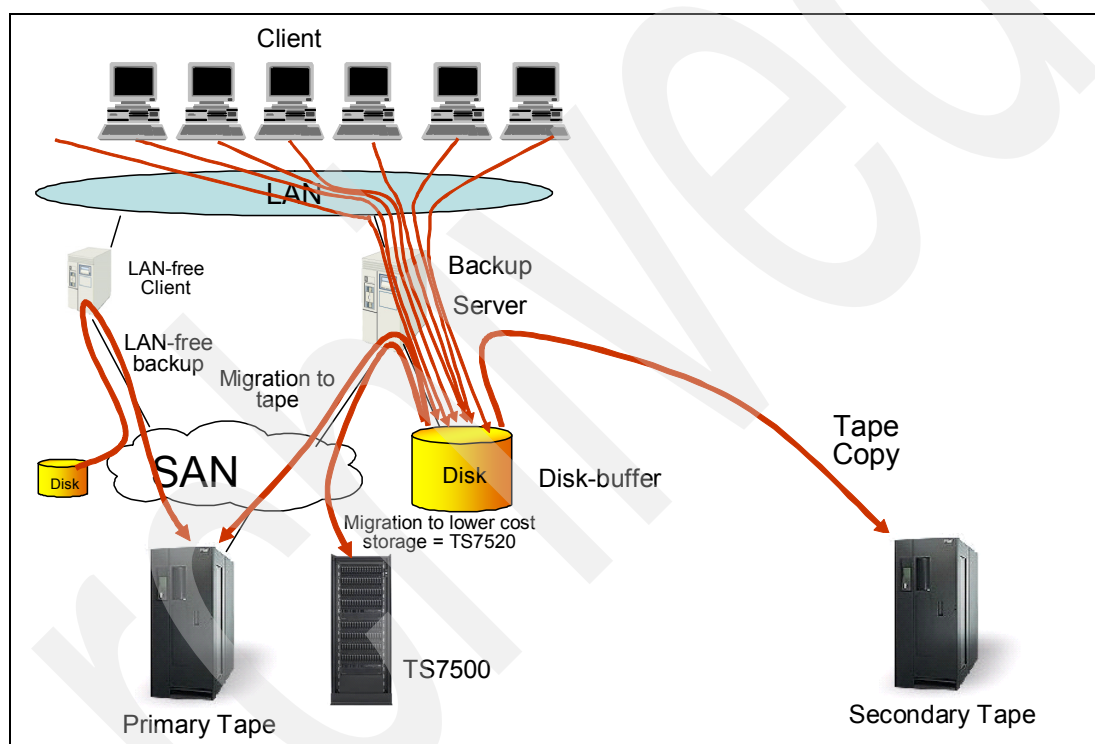

Figure 2-12 D2D2T with TS7500 as lower-cost storage device for faster restore of file systems
3. Migrate the data from the disk pool to either physical tape (for large files) or to the TS7500 for smaller files and file systems (Figure 2-12).